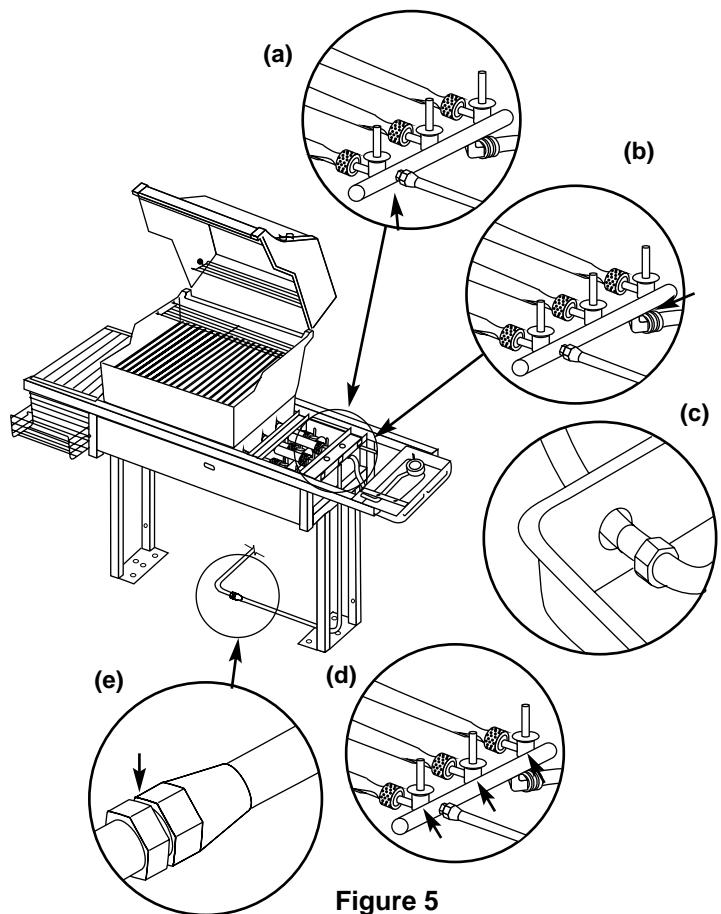

Figure 5
- a) Gas supply line to manifold connection. Figure 5 (a).
- b) Manifold to side burner hose connection. Figure 5 (b).
- c) Side burner hose to side burner connection. Figure 5 (c).
- d) Valves to manifold connections. Figure 5 (d).
- e) Barbecue gas supply line to natural gas supply connection. Figure 5 (e).